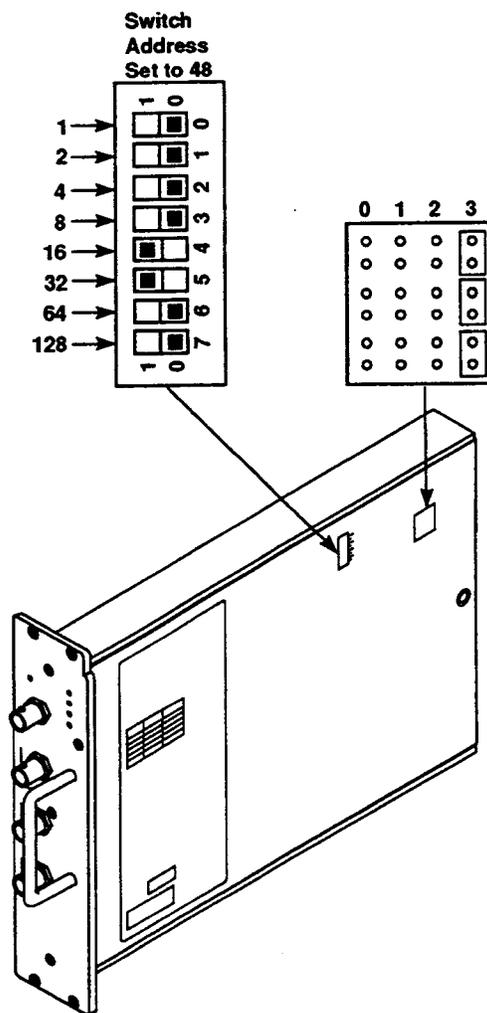

Figure 1-2. Logical Address Switch and Bus Request Setting
The factory-set HP E1740A TIA logical address switch is shown in Figure 1-2.
- There are four bus request lines (0–3) from which one is selected (Figure 1-2). Bus request line 3 has the highest priority, bus request line 0 has the lowest priority.
- It is normally not necessary to change the bus request level setting (3) on the TIA.
A drawing of the bus request jumper settings is shown in Figure 1-2. A bus request level of 3 is set.